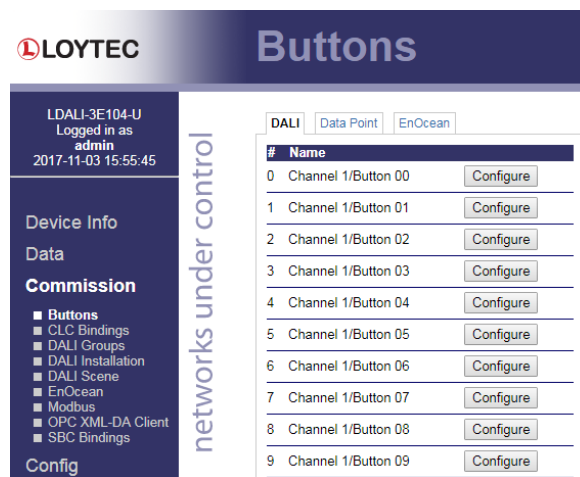
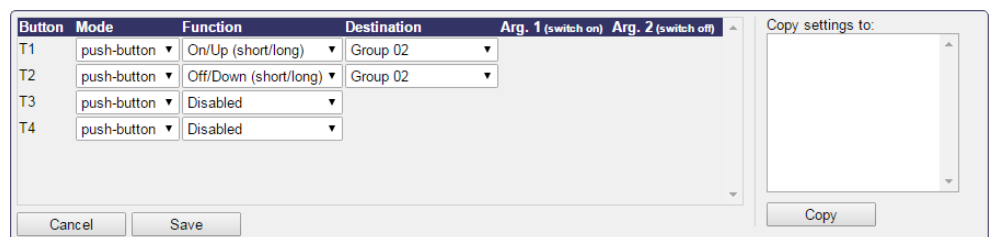

Figure 91: Button Functions.
Figure 92: Configure DALI button functions.
1. On the **Buttons** page, stay on the **DALI** tab (see Figure 91) and click on the **Configure** button next to the button device that is to be configured. The dialog shown in Figure 92 appears.